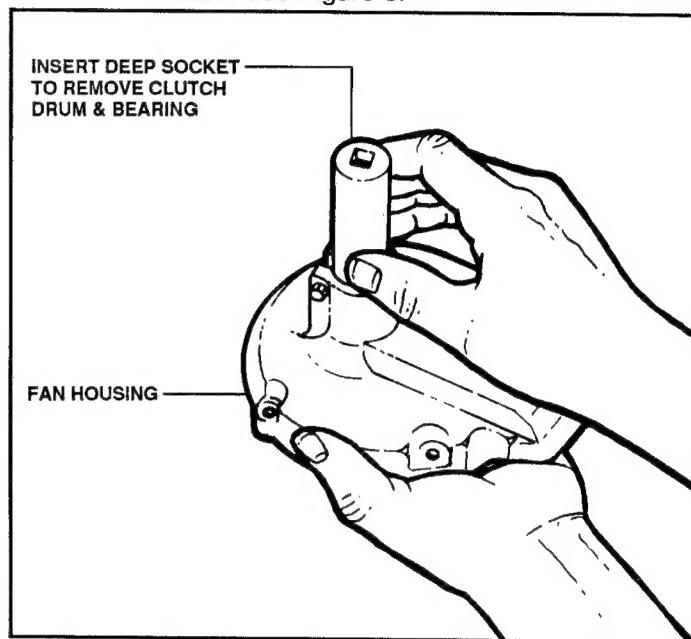

FIGURE 3
3. To remove the drum, insert a deep socket into the fan housing as shown. Support the ends of the fan housing so that the drum and bearing may be pressed out. (Do not tap out the drum). You must use an arbor press or like device for this operation. See Figure 3.